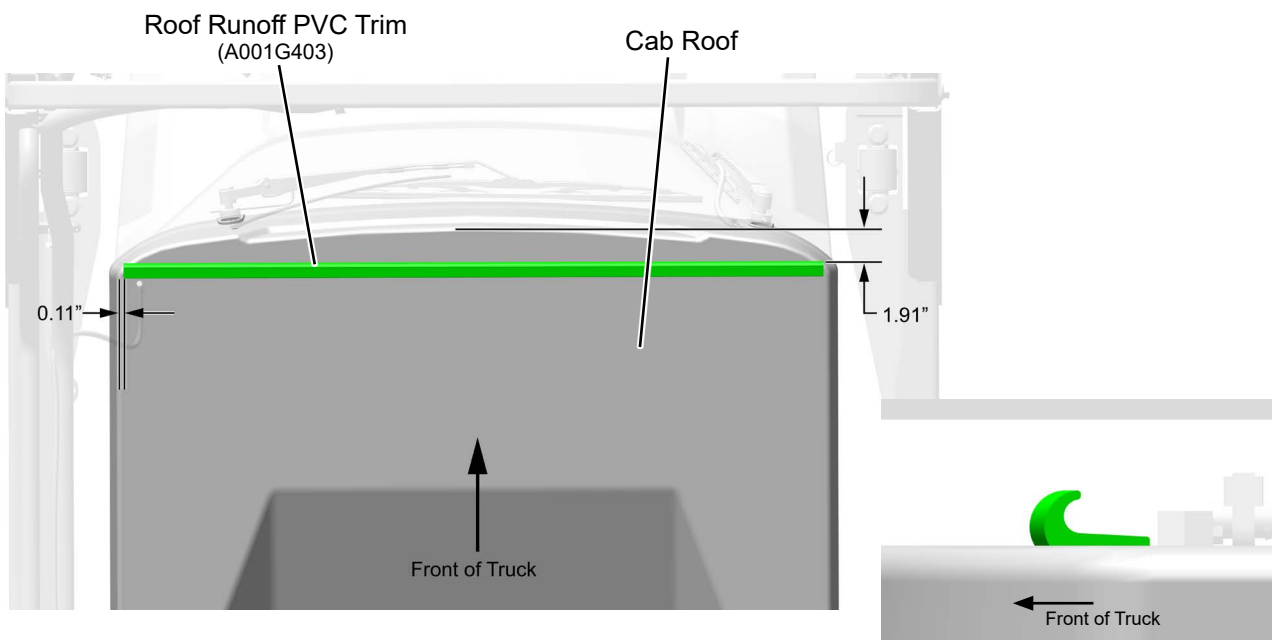

Figure 1. Top View Cab Roof
3. Clean and dry top front portion of cab roof with alcohol wipes. See Figure 1.
5. Install roof runoff PVC trim (A001G403) on cab roof. See Figure 1 for location and trim orientation.